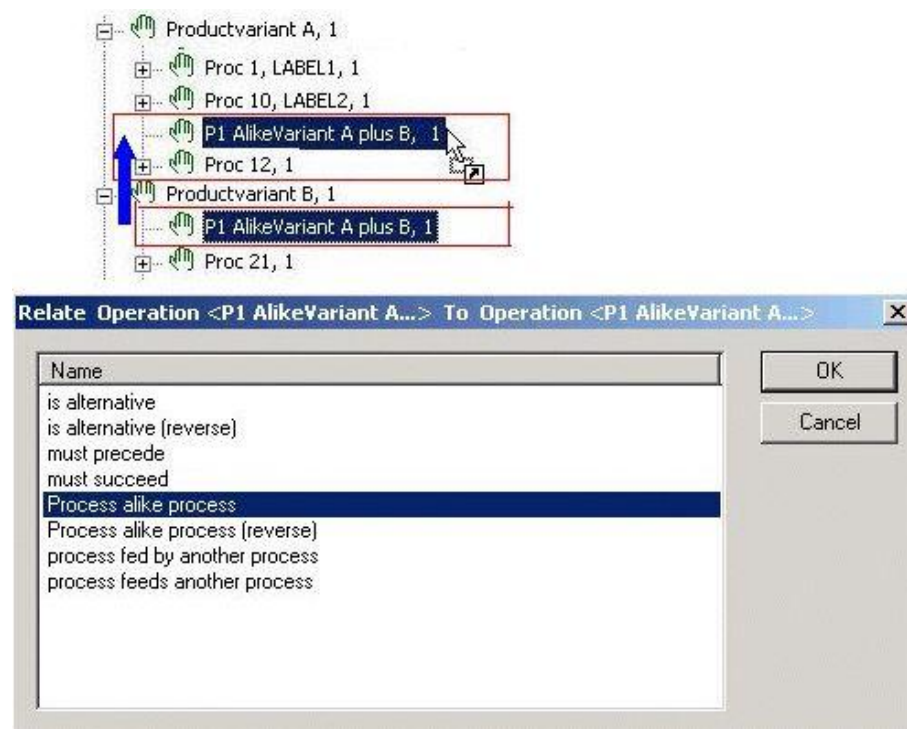

Figure 204: Marking Processes of the same Type via Relation
- 4) Click the *OK* button to confirm. Both processes are marked as processes of the same type. Please refer to the Figure 204.